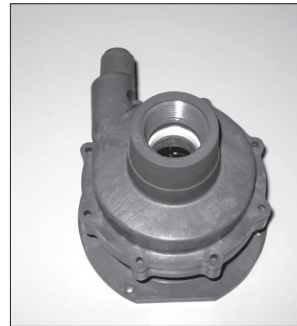

Figure 33
3. With the discharge port oriented in either a vertical (12:00) or horizontal (3:00) position, align the holes of the housing with the motor adapter / barrier. The flat side of the motor adapter / barrier aligns with the motor feet or bottom of the pump. See figures 33 & 34. See note on page 4, step 3 of Mounting.